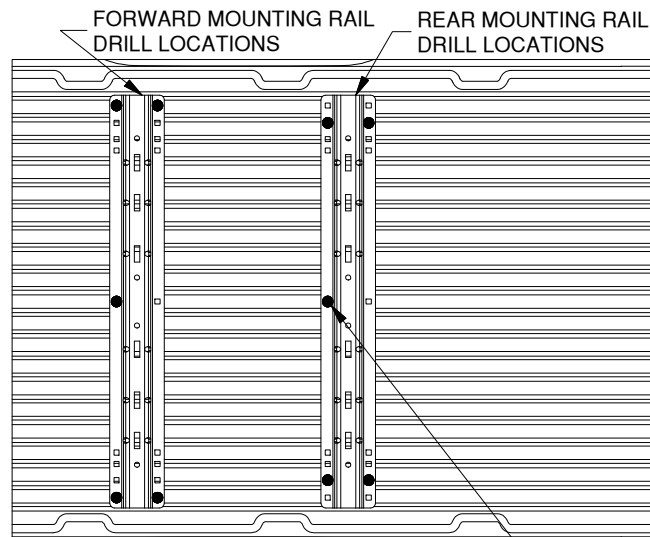

Figure A2: Detail view over bed, showing drill locations for the forward and rear bed rails.
- Mark hole locations.** While carefully ensuring the mounting rail does not move, use a center punch tool to mark the five drill locations on the rear rail. See Figure A2 for hole marking locations for this installation (forward rails will install on a later step). Once all five rear rail locations are clearly marked, move the bed rail out of the way and drill each location with an 1/8" drill.
3. **Drill forward mounting holes.** Using the same methods as used for the rear mounting rail, mark, drill, check, and enlarge the holes for the forward mounting rail. Refer to "DRILL REAR MOUNTING HOLES" section, steps 2 through 4, on a previous page. Notice that the hole locations are slightly different than the rear rail, see Figure A2 (on the second page).